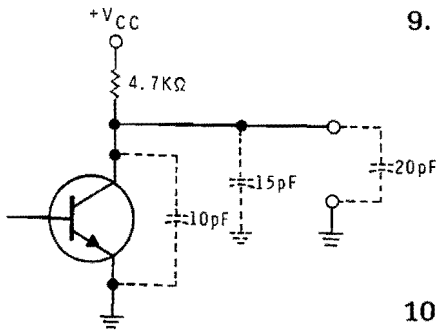

Figure 2-77
10. The video amplifier shown in Figure 2-77 uses a 4700 ohm load resistor. The output capacitance of the transistor is 10 picofarad. The lead capacitance to the chassis has been found to be 15 picofarad. The circuit works into a 20 picofarad load. With this information, what is the cutoff frequency ( $F_{CO}$ )?